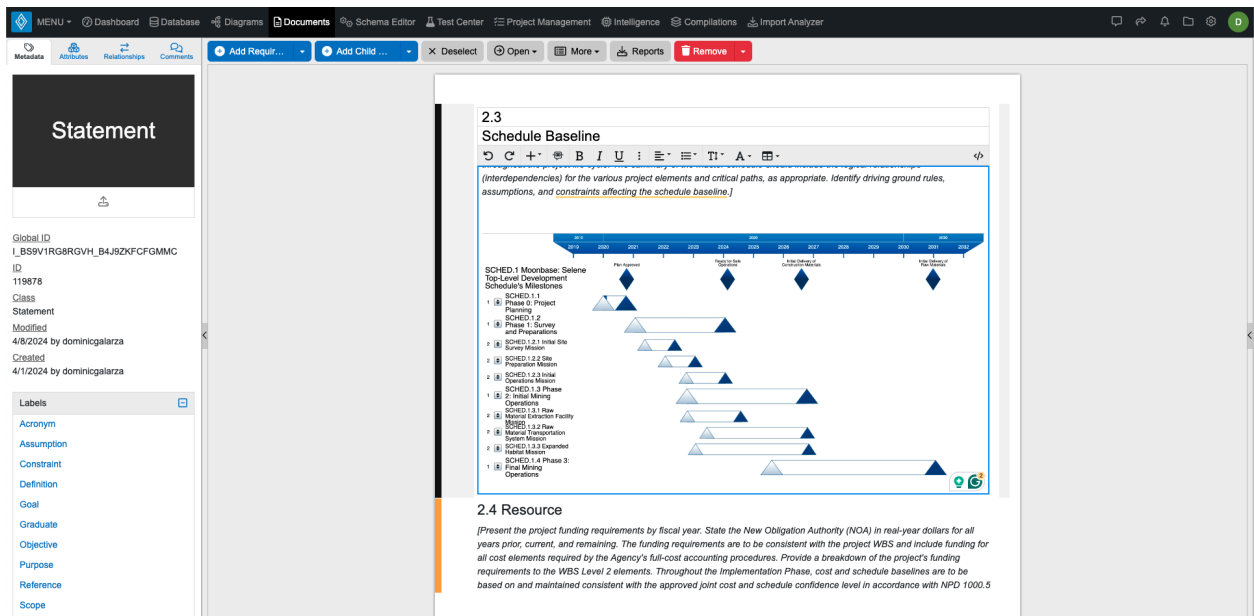

Figure 10: Timeline Diagram inserted into PMP Document
3. Select “Timeline Diagram” for the Diagram Type and then “Moonbase: Selene Top-Level Development Schedule” for the Target Entity. The result will look similar to Figure 10 below.